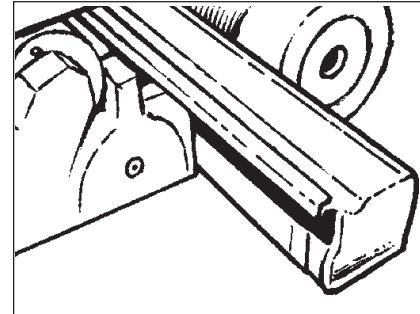

Figure 44
13. If you are scrubbing with the cylindrical brush head unit, remove the hopper (see figure 44). Clean it carefully.